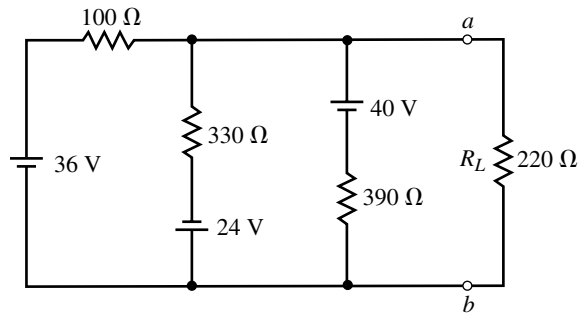

FIGURE 9-104
- 46. Repeat Problem 45 for the circuit of Figure 9-104.